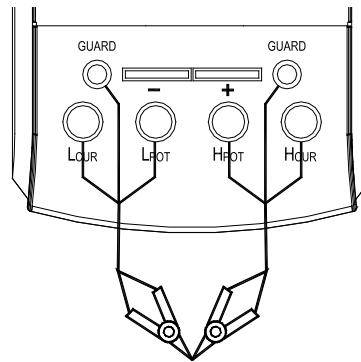

Figure 7
- When using $L_{CUR}/L_{POT}/H_{POT}/H_{CUR}$ terminals, insert the black and red testing lines with alligator clip into the "L_{CUR}", "L_{POT}" terminal and "H_{CUR}", "H_{POT}" terminal respectively. Connect the mouth of clips. (shown in figure 7).